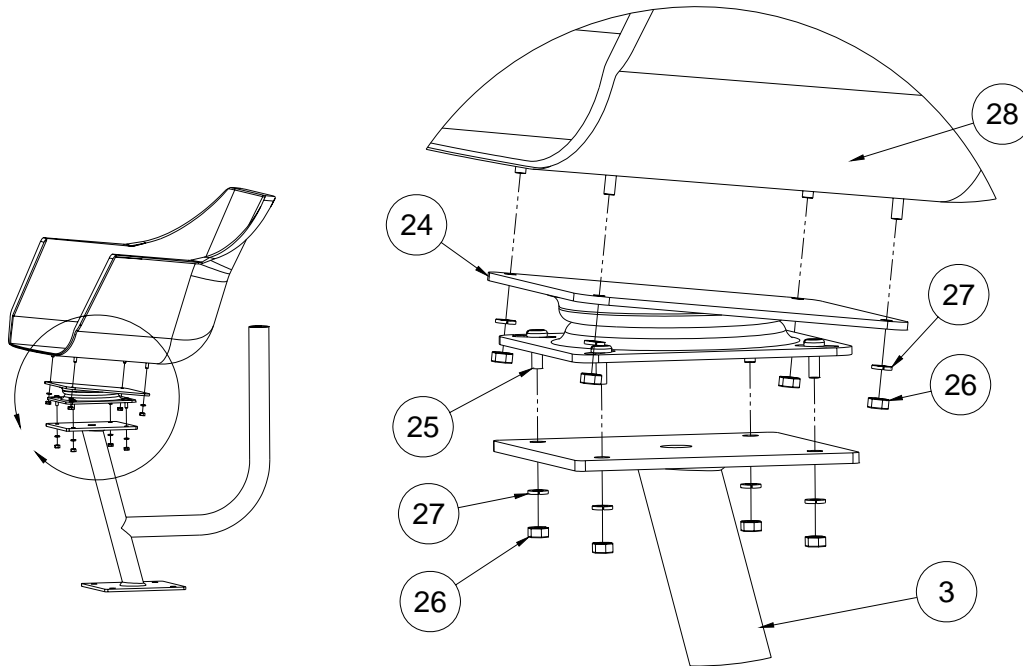

FIGURE 5
- Place **Lifeguard Chair Swivel (item 24)** on top of **15 Deg. Swivel Stand W/ Umbrella Holder (item 3)**, orienting as shown in **FIGURE 5**. Place **1/4" Screw (item 25)** through swivel and swivel stand four (4) places. Place **1/4" Lock Washer (item 27)** over screw on the underside of swivel stand four (4) places. Place **1/4" Hex Nut (item 26)** onto screws, over lock washers, four (4) places, and tighten. Place **Lifeguard Chair (item 28)** on top of swivel, placing threaded studs in lifeguard chair through holes in the swivel. Orient as shown in **FIGURE 5**. Install **1/4" Lock Washer (item 27)** four (4) places over studs and place **1/4" Hex Nut (item 26)** over lock washers and studs four (4) places and tighten.